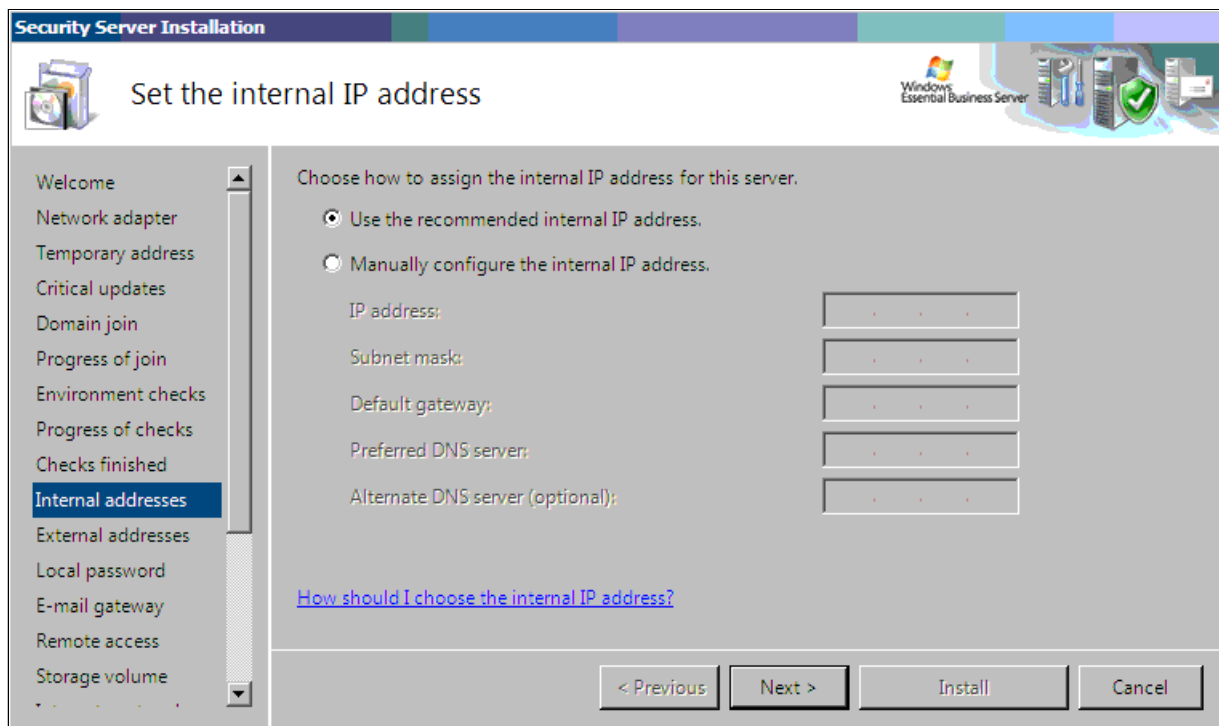

Figure 4-42 Set the internal network IP address
14. On the “Set the internal IP address” panel (Figure 4-42), verify that the settings that you chose during the Management Server installation are filled in as the suggested settings. In our example, we selected **Use the recommended internal IP address**. Click **Next**.